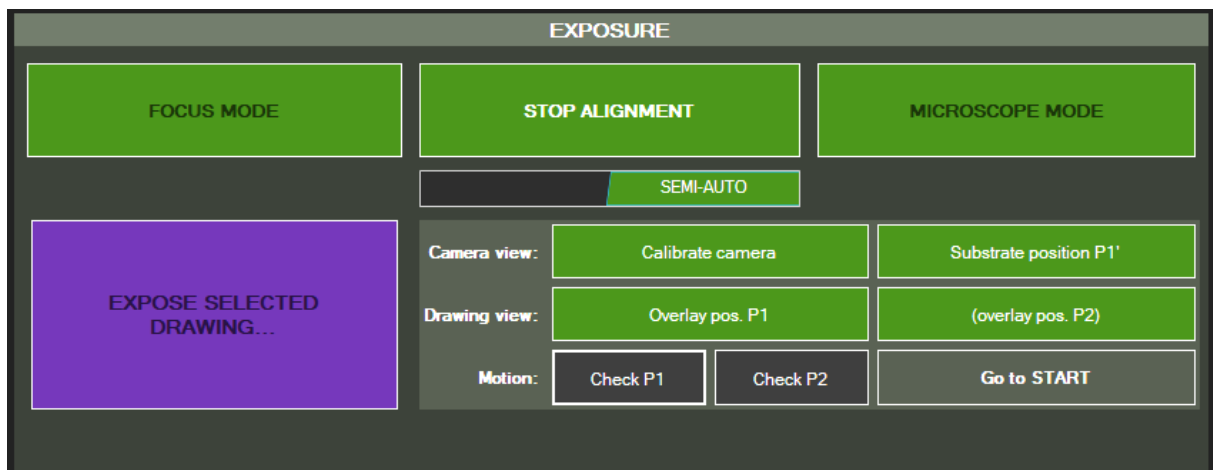

Figure 57 - Semi-auto alignment panel after defining P1', P1 and P2
- Alignment checking and adjustment of the substrate rotation angle q : in order to check the validity of the adjustment, click on **Check P1** (Figure 57). The stage will then move to align P1' (on the substrate) with P1 (on the drawing) as shown in Figure 52f. If P1 and P1' are
- Finishing the alignment setting: click on **Go to START** (Figure 57) and quit the alignment mode by clicking on **Stop alignment**